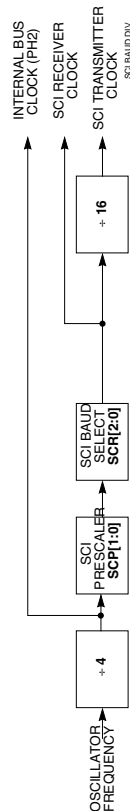

Figure 5-7 Rate Generator Division
The diagram shown in **Figure 5-7** and the data given in **Table 5-3** and **Table 5-4** illustrate the divider chain used to obtain the baud rate clock. Note that there is a fixed rate divide-by-16 between the receive clock (RT) and the transmit clock (Tx). The actual divider chain is controlled by the combined SCP[1:0] and SCR[2:0] bits in the baud rate register as illustrated.